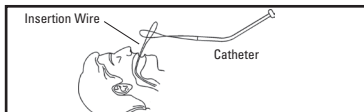

Figure 3
- Pass the insertion wire through the One Step Button Device wire loop (Figure 3).